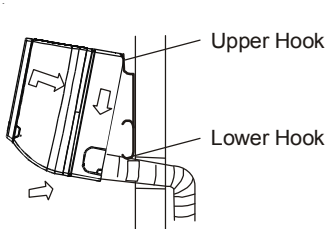

Figure 10
10. Place the upper claw on the back of the indoor unit on the upper hook of the installation plate. Move the indoor unit from side to side to ensure it is securely mounted. (See Figure 10).